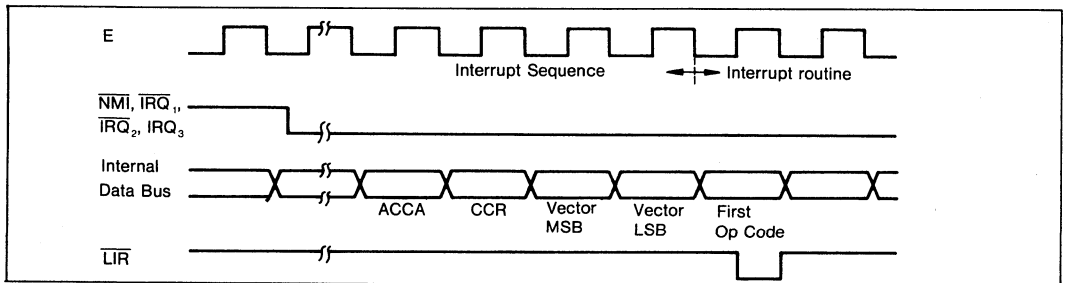

Figure III-14. First Cycle in Interrupt
2. First opcode fetch cycle in the interrupt routine (figure III-14).